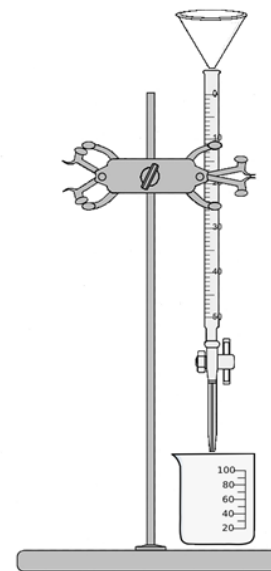

Figure 1: Column Assembly.
1. Assemble your column. (See Figure 1.) Using a burette clamp, clamp the column (pipet) to a ringstand. Place a 100 ml beaker below the tip of the column. Make sure the column stopcock (drain valve) is closed.*